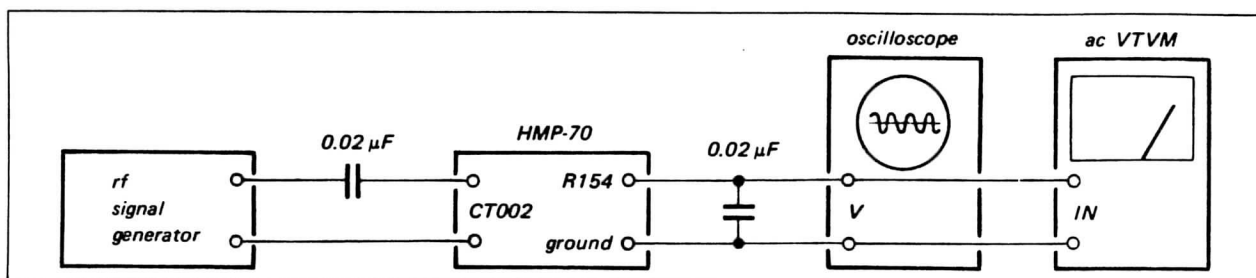

Fig. 3-5. Fm i-f and discriminator alignment setup by rf signal generator
1. With the equipment connected as shown in Fig. 3-5, set the signal-generator controls as follows: